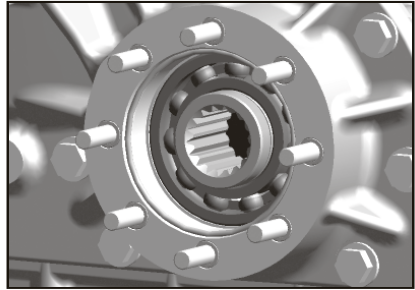

Fig. 4
5. Install Studs as shown in **Fig. 4**